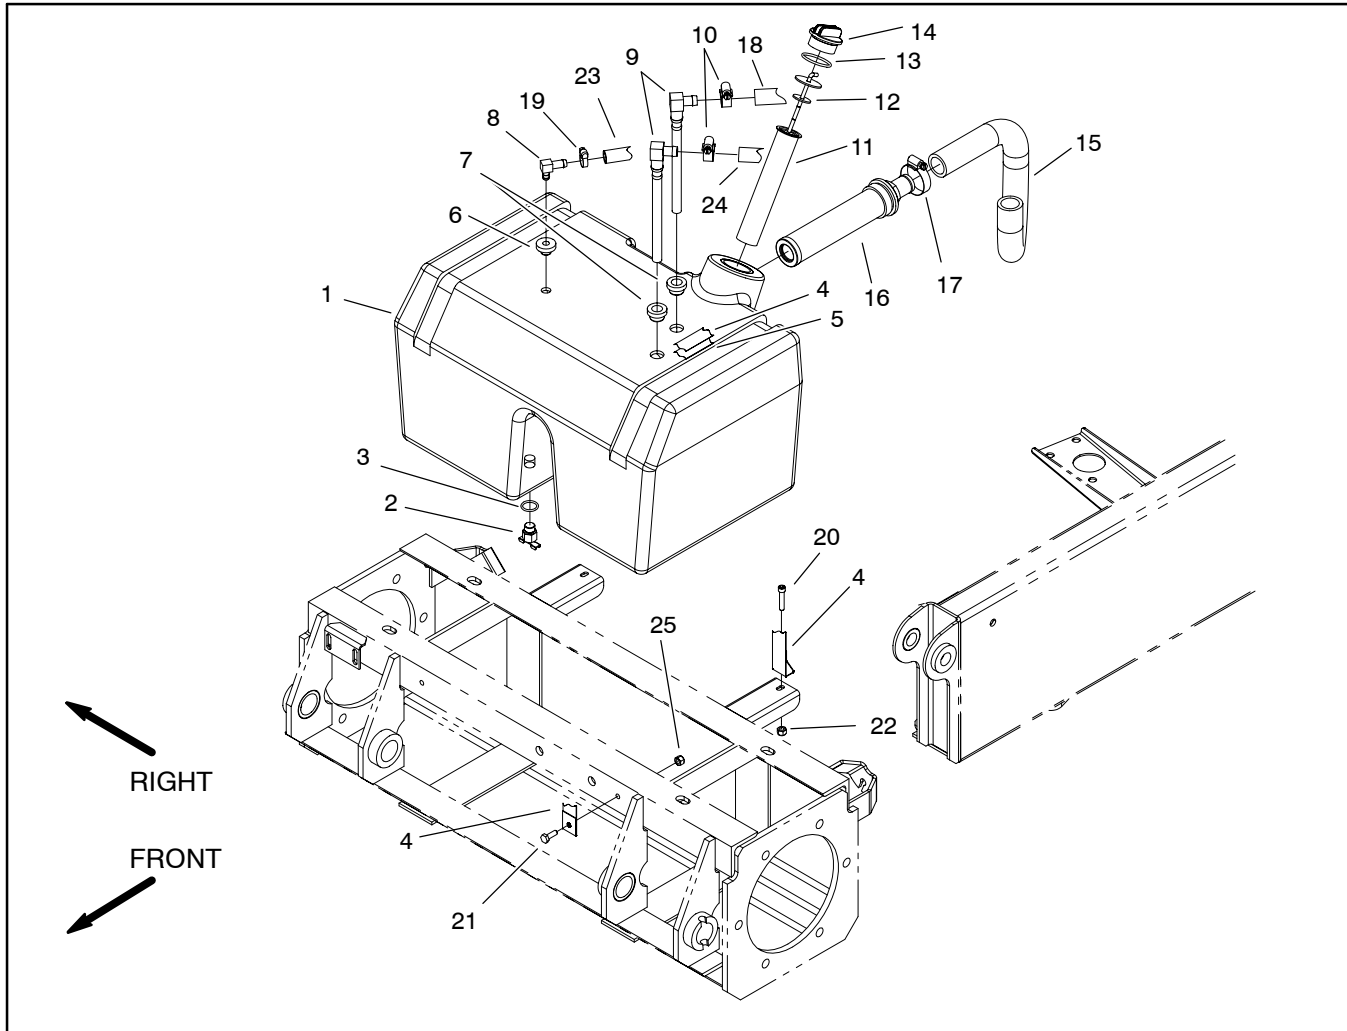

Figure 86
5. Remove hydraulic reservoir using Figure 86 as a guide.
1. Install reservoir using Figure 86 as a guide.